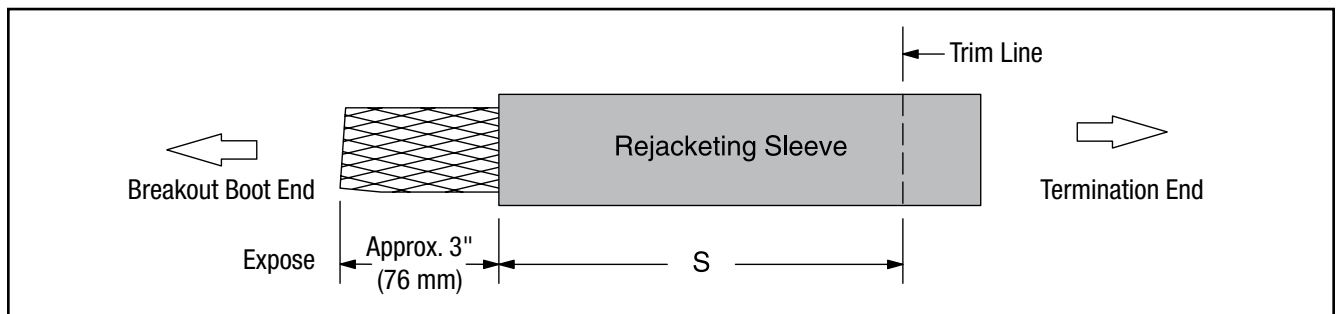

Figure 13
5.4 Using scissors, trim rejacketing sleeve assembly to length required (*Figure 13*). Cut tubing and inner braid together.